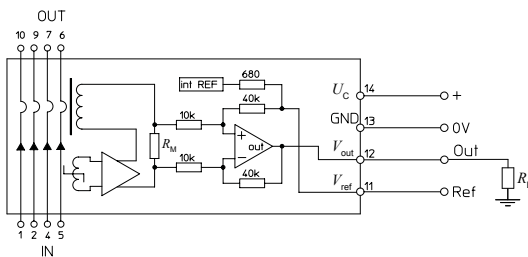

Figure 17: Test connection
- or in a known magnetization state, like in the current cycle shown in figure 17.
Using the current cycle shown in figure 17, the electrical offset is: